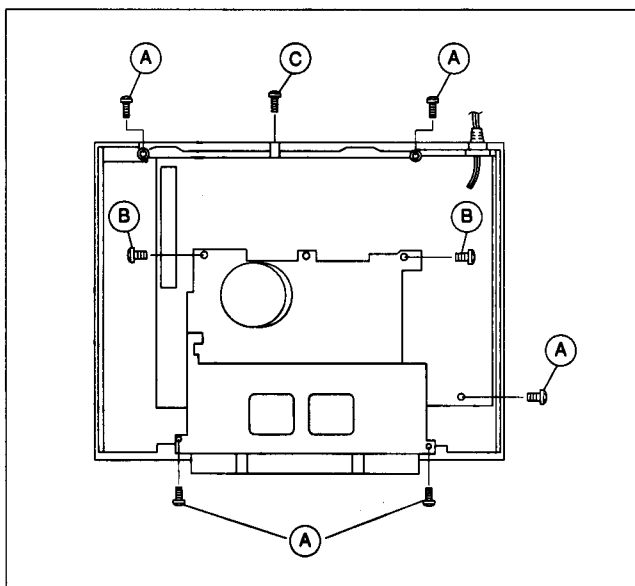

Fig. 1-5-1
- (1) Remove the Top cover, Front panel assembly, CN1201 and CN1202 of DISPLAY board assembly.
- (2) Take out 5 screws (A), 2 screws (B) and 1 screw (C) as shown in Fig.1-5-1.